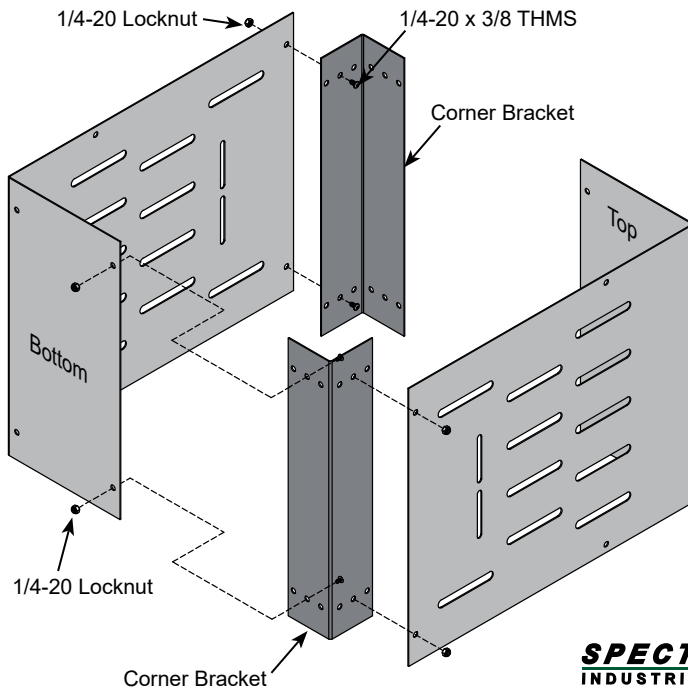

Figure 1.1
- Adjust the CPU sling to the height and width of your CPU using the three adjustment holes and attach the corner brackets inside the assembly using the 1/4-20 x 3/8" truss head machine screws and 1/4-20 locknuts as shown in **Figure 1.1**. The screws install from the inside with the locknuts on the outside. Note the positions of the corner brackets at the top and bottom of the sling. **Figure 1.2**.